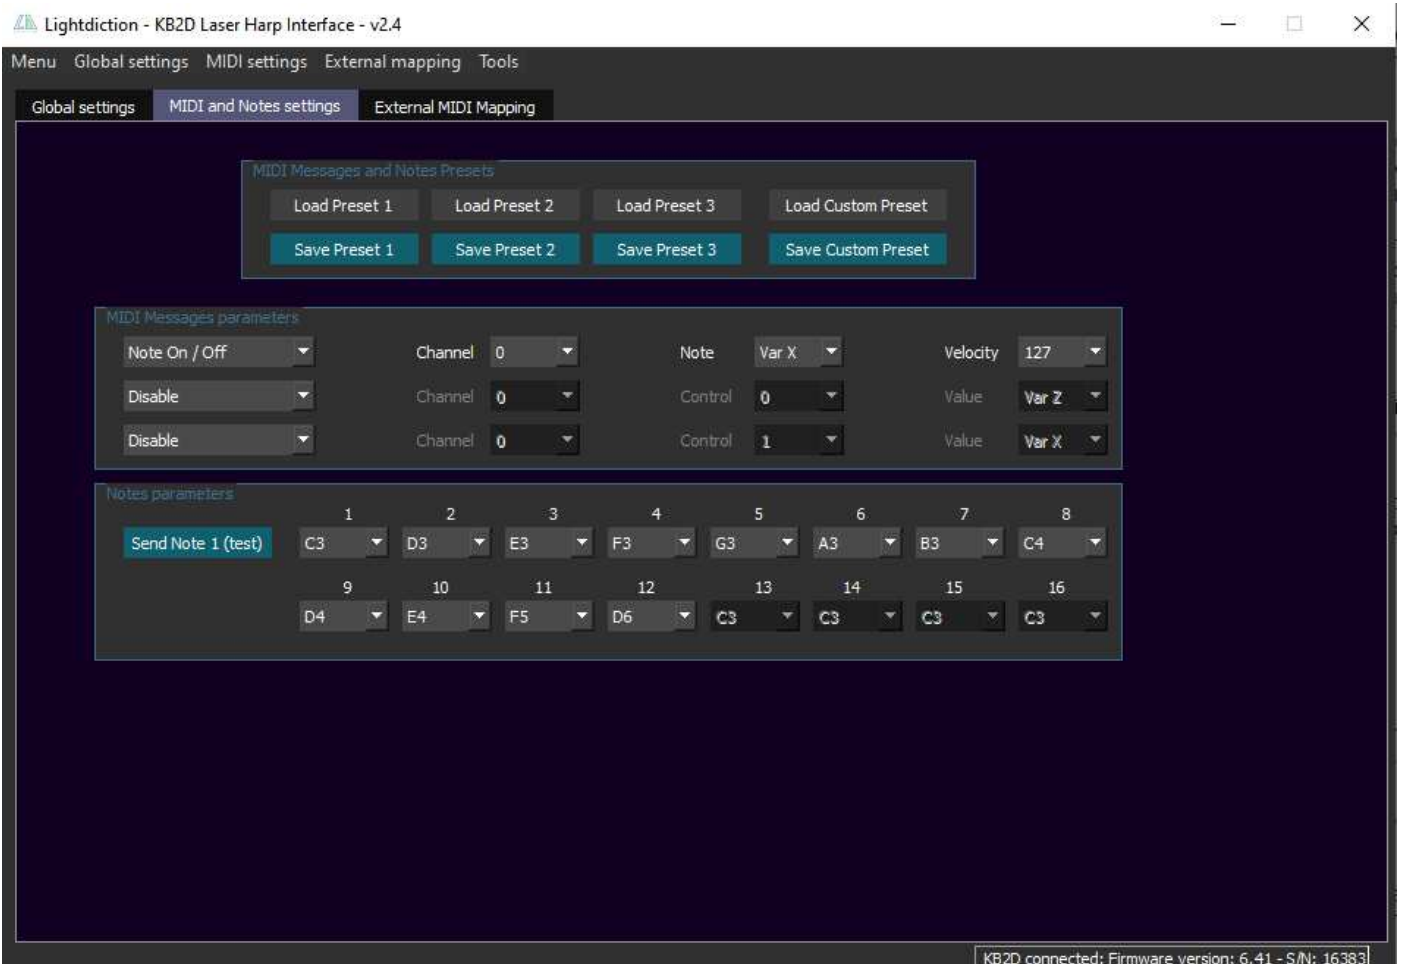

Fig. 4: MIDI and Notes Settings (Second tab)
- 5- Select the MIDI Notes you want the KB2D to send with “**Notes parameters**” (Fig. 4). Then click on “Send Note 1 (test)”. This will force the KB2D to send the note you selected on beam 1 in **Notes parameters**. If you cannot hear anything, check that “KB2D Interactive” MIDI In port is correctly connected on your DAW.